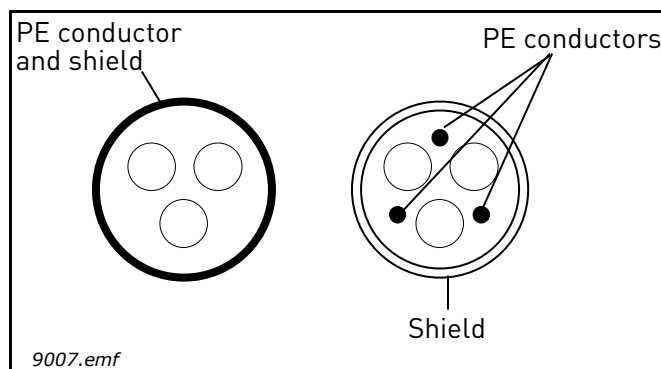

Figure 21.
- 2 = Symmetrical power cable equipped with concentric protection wire and intended for the specific mains voltage. (MCMK or similar recommended). See Figure 21.
- 3 = Symmetrical power cable equipped with compact low-impedance shield and intended for the specific mains voltage. [MCCMK, EMCCK or similar recommended; Recommended cable transfer impedance (1...30MHz) max. 100mohm/m]. See Figure 21.